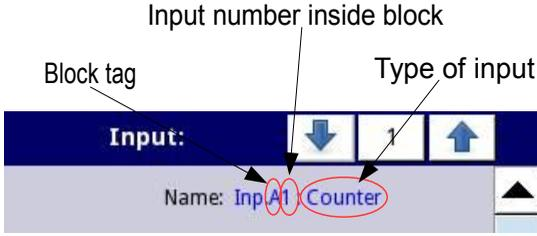

Fig. 7.73. Description of **Name** parameter in **Built-in inputs** menu
A common parameter for all **Built-in inputs** is **Name** – each input has its own unique name and it can not be changed – for description of this parameter see **Fig. 7.73**.
- **Name** - each built-in input already has a name given by the device and the user cannot change it, for the description of the **Name** parameter see **Fig. 7.73**,
- **Name** – each built-in input already has a name given by the device and the user cannot change it, for the description of the **Name** parameter see **Fig. 7.73**,
- **Name** – each built-in input already has a name given by the device and the user cannot change it, for the description of the **Name** parameter see **Fig. 7.73**.
- **Name** – each built-in input already has a name given by the device and user cannot change it, for description of **Name** parameter see **Fig. 7.73**,
- **quad 4** – counter becomes an encoder element used to measure pulses on inputs using quad method. Direction of counter value changes depends on input 1 (2) state (0 - down, 1 – up), and counting take place when on input 2 (1) rising edge appears. Thanks to this method user gains four times higher measurement resolution,